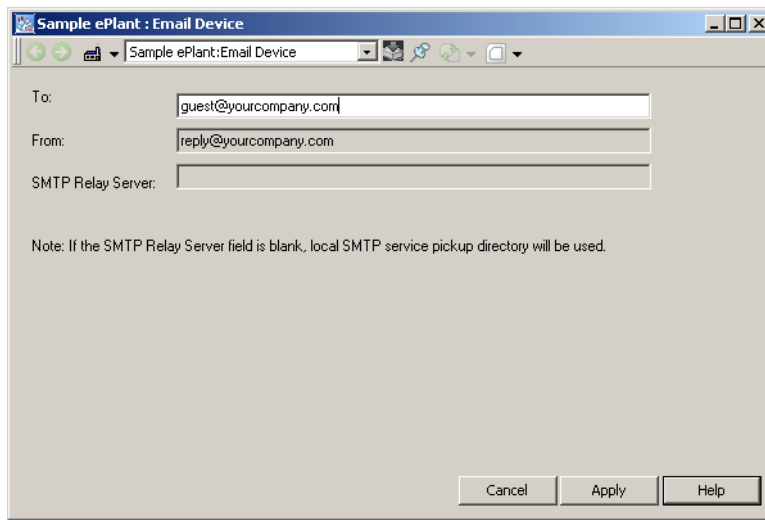

Figure 102. SMTP/Email Device
16. Enter the e-mail address for the user in the To: field to produce a view similar to the one shown in Figure 102. The information in the From: and SMTP Relay